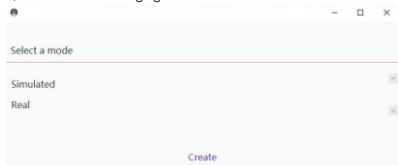

Figure 1 Mode Selection Interface
- 1) Double-click the icon of MGISP-960 on the desktop. The mode selection interface is displayed, as shown in following figure 1. Select **"Real"** and click **"Create"**.